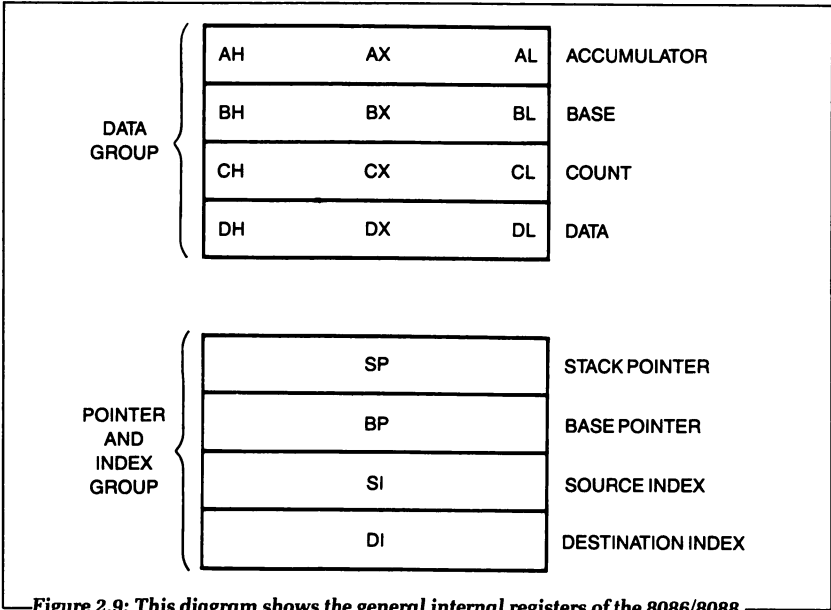

Figure 2.9: This diagram shows the general internal registers of the 8086/8088.
Figure 2.9 shows the general registers of the 8086/8088. We can see in this figure that there are two main groups: the data group, and the pointer and index group. Each register is 16 bits wide. The data group is labeled `AX`, `BX`, `CX` and `DX`. They can be used as a single 16-bit register or as two 8-bit registers. When used as two 8-bit registers, they are divided into an upper (H) and lower (L) half, labeled `AH`, `AL`, `BH`, `BL`, `CH`, `CL`, and `DH`, `DL`.
The pointer and index group of registers (shown in Figure 2.9) are used only as 16-bit registers. These registers are labeled `SP` (stack pointer), `BP` (base pointer), `SI` (source index), and `DI` (destination index). The reasoning behind these names will become clear later on in the text when we discuss the various addressing modes and show programming examples for the 8086/8088. For now, it is only important to know that these registers exist, and how they are organized.